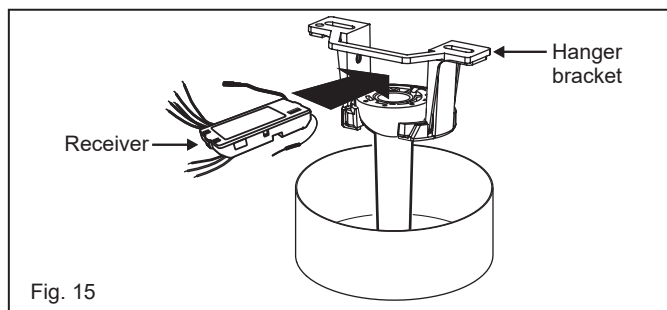

Fig. 15
1. Insert the receiver into the ceiling mounting bracket with the flat side of the receiver facing the ceiling. (Fig. 15) For best performance, make sure the Black Antenna and WIFI Antenna, on the end of the receiver, remains extended and not tangled with any of the electrical wires.